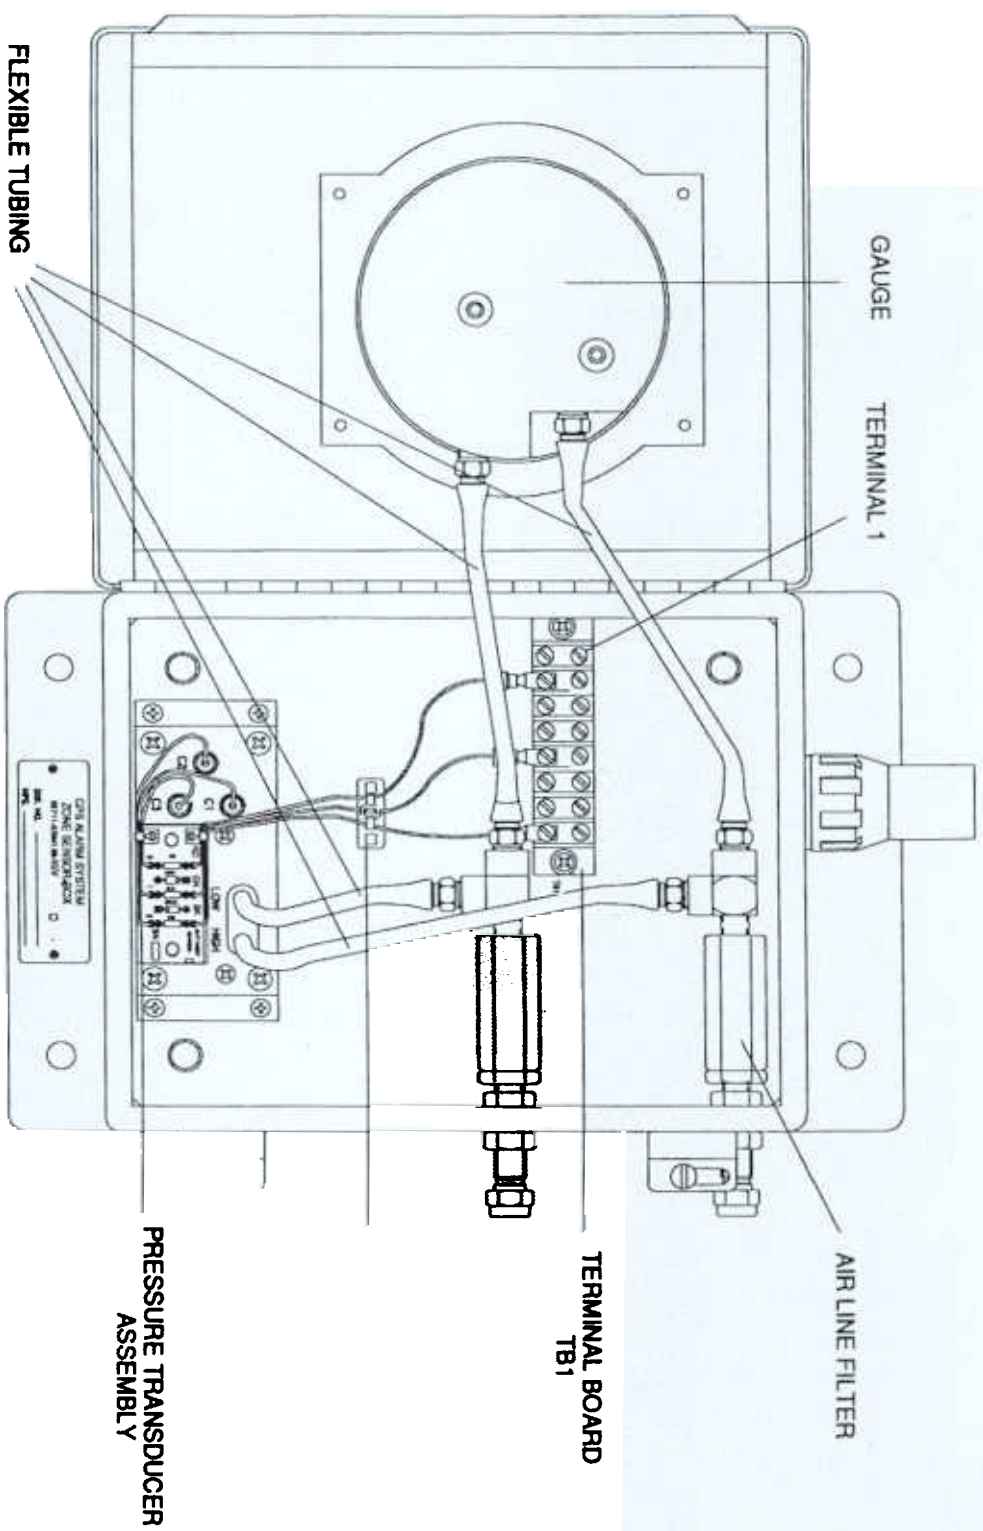
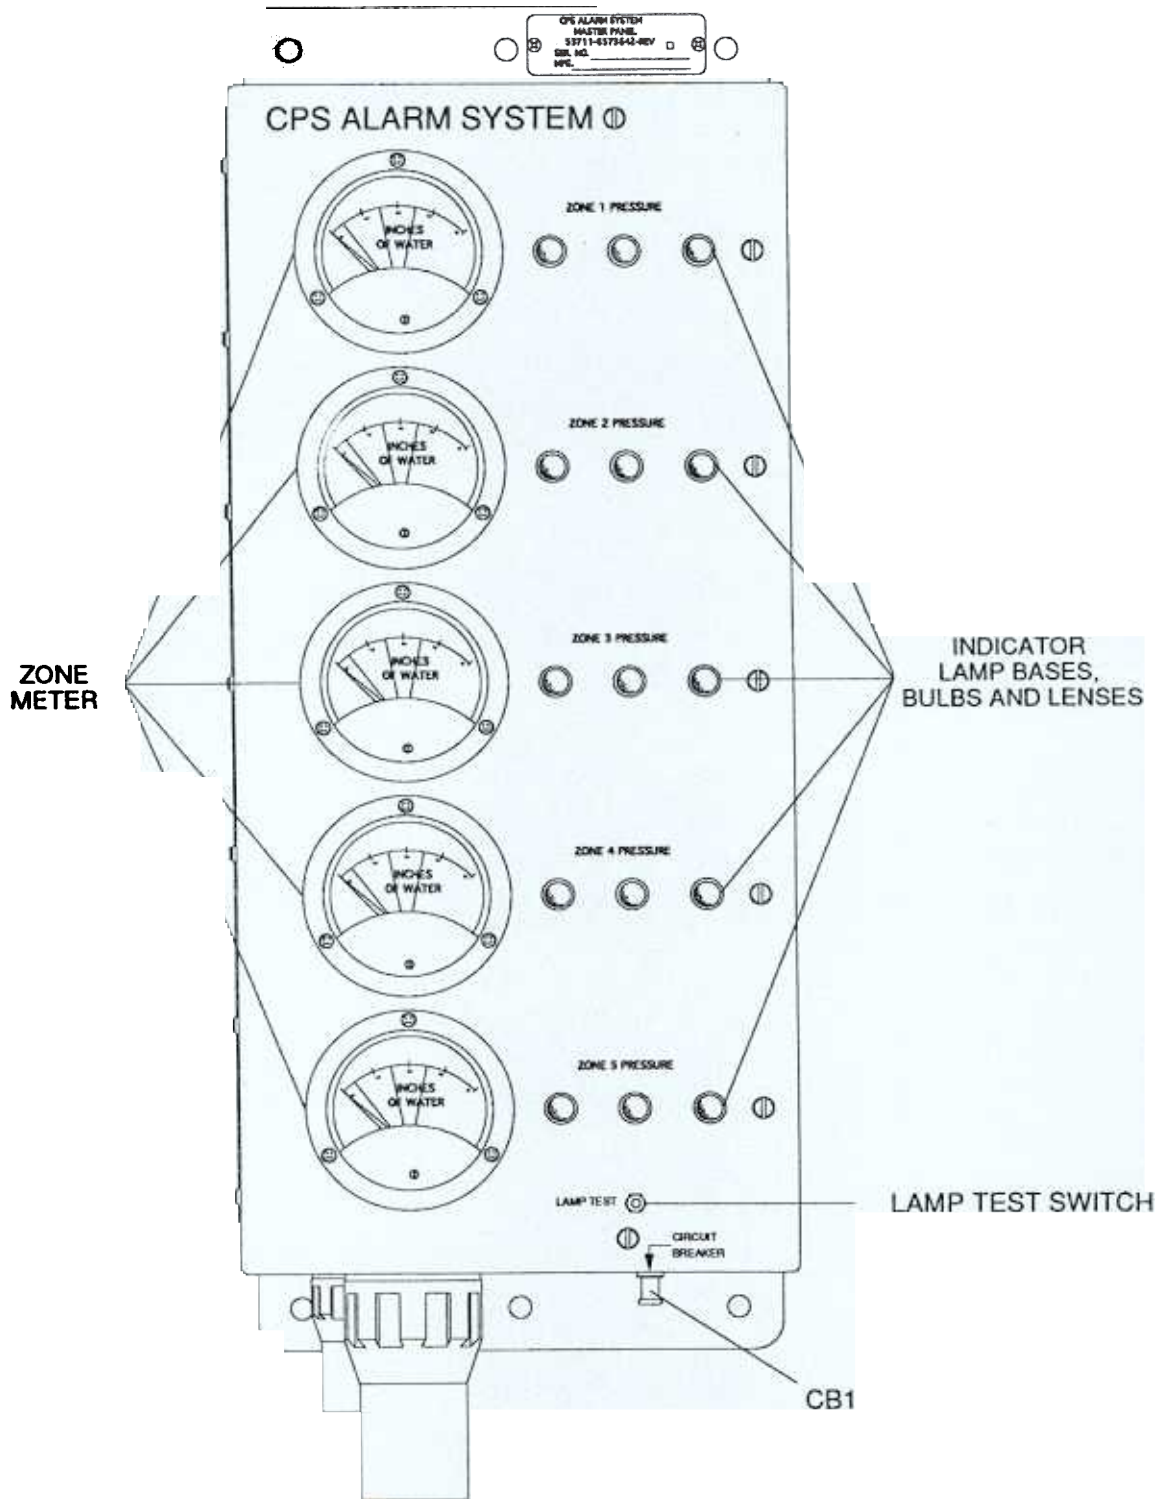
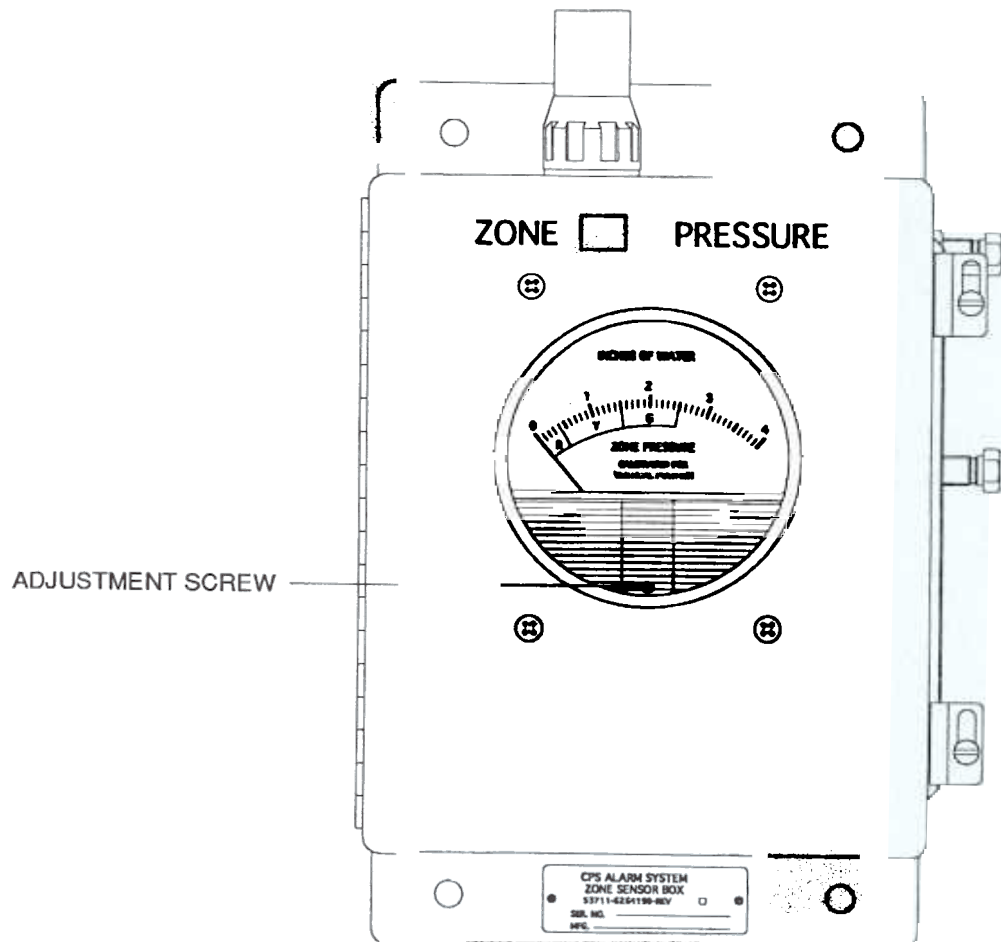

Figure 6-2. Zone Sensor Box, Door Open
Figure 6-1. Master Panel
Figure 6-3. Zone Sensor Box
- (1) Position three personnel as indicated above.
- (2) At master panel ensure that the master panel circuit breaker CB1 (figure 6-1) is pushed in (on). Press and hold the lamp test switch on the master panel (figure 6.1). All lamps on the master panel should illuminate. If they do not, refer to troubleshooting (chapter 5). Release the lamp test switch after verifying the operation of the lamps.
- (3) Open front and inner panels of the master panel.
- (4) Open front panel of the zone sensor box. Disconnect the flexible tubing from the pressure gauge and the pressure transducer assembly noting its original configuration (figure 6-2). Observe the pressure reading of pressure gauge. If the pressure gauge does not indicate 0.0 in. wg pressure, adjust to read 0.0 by turning the adjustment screw on the face plate (figure 6-3). Adjust the screw slowly in either a clockwise or counter-clockwise direction. Leave the flexible tubing disconnected.
- b. Ensure master panel is on by pushing in circuit breaker CB1 (figure 6-1).